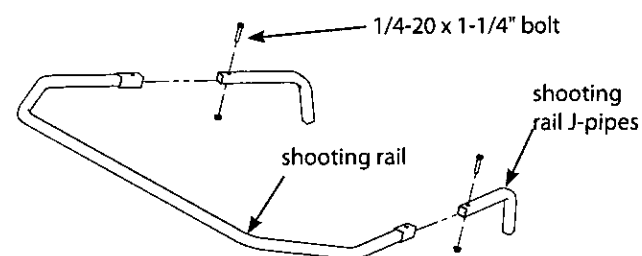

Figure 8
10. Insert the shooting rail J-pipes (410113) into the shooting rail front (410065) and secure together using (2) provided 1/4-20 x 1-1/4" bolts and locknuts. **SEE FIGURE 8.**